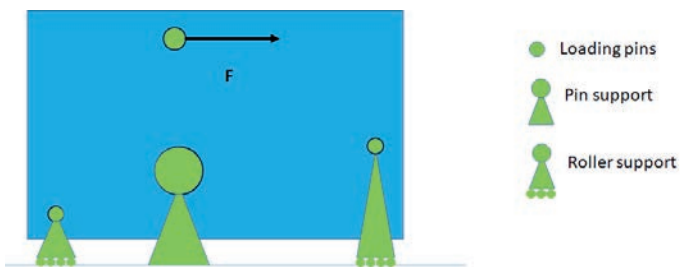

Figure 2. Mechanical test of bell crank structure
- The structure will be loaded statically using a tensile test (see Figure 2). Please consider the design at the load introduction points carefully.